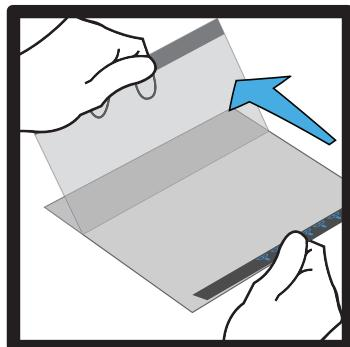

Figure 5
9. Remove the drape's release liner starting with tab A (**Figure 5**). Invert and place over the Cardinal Health™ NPWT foam dressing and peri-wound (**Figure 6**) and continue removing the contact layer with tabs B and C (**Figures 7-8**). Remove the remaining perforated tab (**Figure 9**). Gently press drape material down around the wound site and over the Cardinal Health™ NPWT foam dressing to ensure dressing is properly sealed.